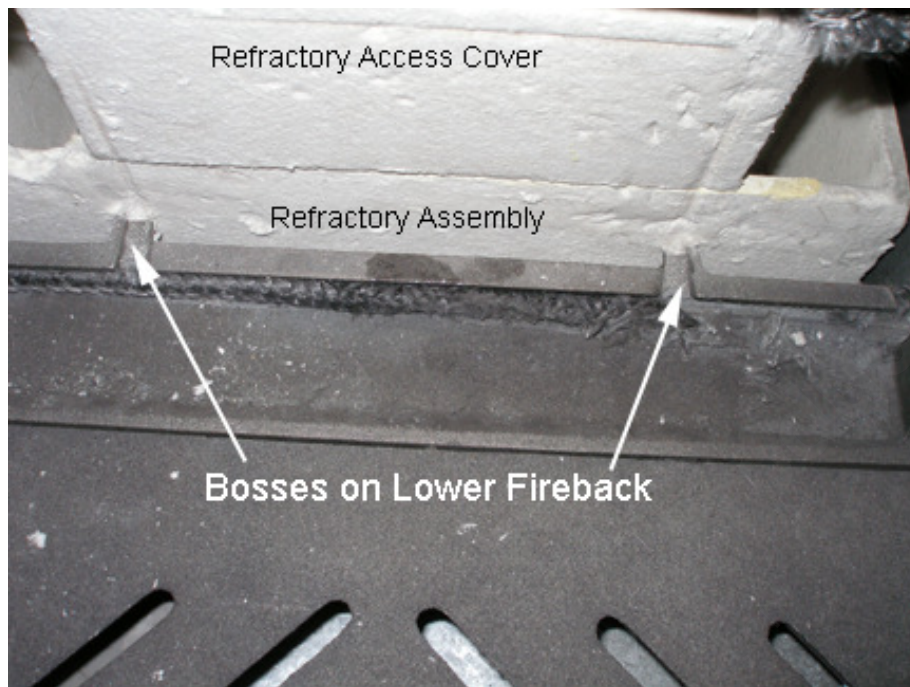

Fig. 2
12. Carefully slide the new refractory assembly in the space behind the lower fireback. There are two bosses or nubs on the back of the lower fireback designed to hold the refractory in the proper position. See photo below. These tabs may interfere with the refractory assembly sliding smoothly down to the bottom of the stove. A small groove may be etched into the front of the refractory assembly by the two protruding bosses as the refractory assembly is carefully pushed to the bottom of the stove. If deemed necessary, file a little bit off the tips of the bosses to make the refractory assembly install easier. Ensure it goes all the way to the bottom of the stove. See Fig. 2